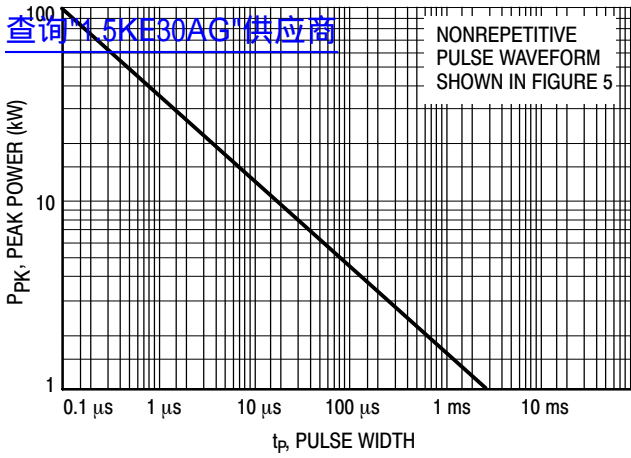
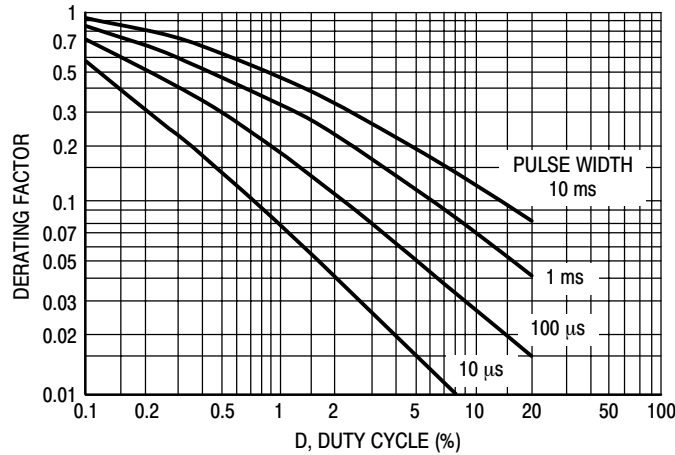

Figure 1. Pulse Rating Curve
Figure 7. Typical Derating Factor for Duty Cycle
7. Surge current waveform per Figure 5 and derate per Figures 1 and 2.
The data of Figure 1 applies for non-repetitive conditions and at a lead temperature of 25°C. If the duty cycle increases, the peak power must be reduced as indicated by the curves of Figure 7. Average power must be derated as the lead or
At first glance the derating curves of Figure 7 appear to be in error as the 10 ms pulse has a higher derating factor than
the 10  $\mu$ s pulse. However, when the derating factor for a given pulse of Figure 7 is multiplied by the peak power value of Figure 1 for the same pulse, the results follow the expected trend.